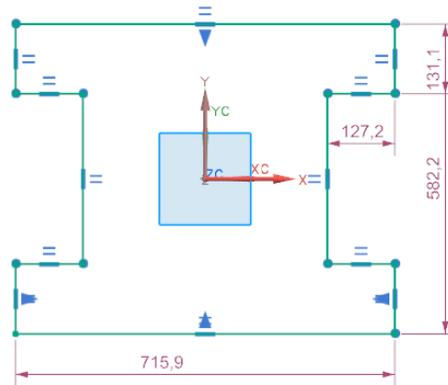

Figure 3-51 The outer profile after adding constraints
10. Similarly, make the lines 1 and 7 symmetric about the horizontal axis. The sketch after applying constraints to all these entities is shown in Figure 3-51.